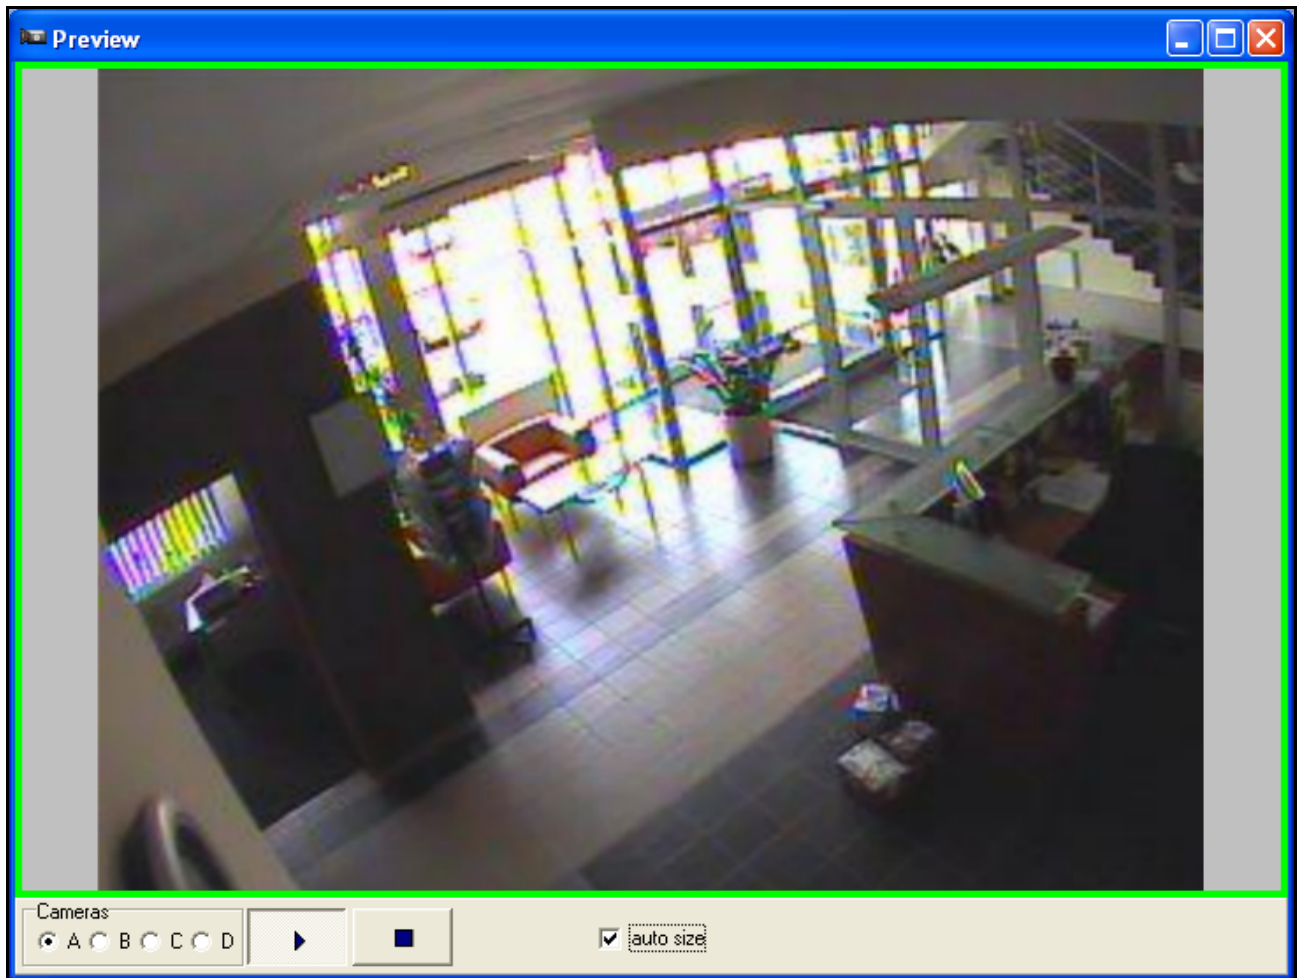

Figure 4. Video signal live view window.
- 6 – Button enabling opening of the local view window (see Figure 4), where you can see the real time video signals from the cameras connected to the device (e.g. in order to bring the image into focus or to suitably aim the cameras in the facility). The view is possible from all the connected cameras for which the view is permitted at the moment